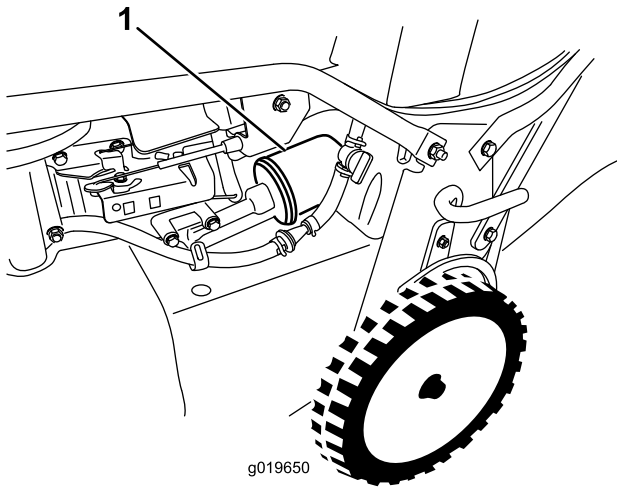

Figure 30
6. Remove the oil filter (Figure 30).